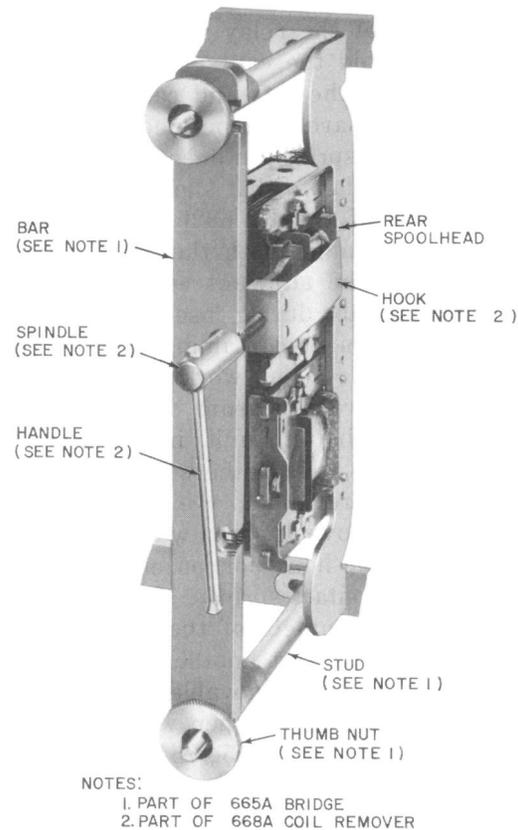

Fig. 11—287- and 288-Type Relays Removing Coil
(3) Remove the top relay mounting screw with the 6-inch C screwdriver. Screw the short-threaded end of one of the studs of the 665A bridge into the hole from which the relay mounting screw was removed. Remove the lower mounting screw. Screw the short-threaded end of the other stud of the 665A bridge into the hole from which the screw was removed. Start a thumb nut on the end of each of the studs.
(4) Turn the spindle of the 668A coil remover so the inner end of the screw is flush with the inner surface of its mounting. Insert the coil remover at the right of the relay so the hook portion of the remover is above the rear spoolhead of the coil in the case of the upper unit, or below the rear spoolhead in the case of the lower unit. If there is sufficient clearance, move the coil remover so the hook is behind the rear spoolhead as shown in Fig. 11. If there is insufficient clearance, remove the coil as covered in (5). If the hook of the remover can be placed behind the spoolhead, position the bar of the bridge on the studs with the end of the bar marked TOP uppermost and with the proper notch in the bar engaging the spindle of the coil remover. While holding the bar against the ends of the studs, shift the bar so, with the coil remover properly positioned on the spoolhead, the screw of the remover rests against the inner end of the notch in the bar and is perpendicular to the front of the bar. Securely tighten the thumb nuts against the bar. Press against the right side of the coil remover to obtain maximum possible engagement of the hook portion with the rear spoolhead and turn the spindle of the remover clockwise until the coil is loose on the core. Loosen the bridge thumb nuts and remove the bar from the studs. Remove the coil remover and then remove the coil.